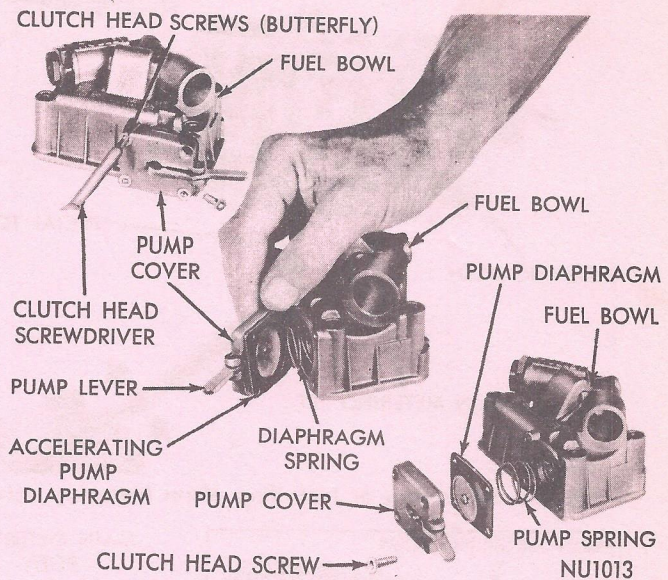

Fig. 14—Removing or Installing Accelerating Pump Assembly
(4) Remove sight plug and gasket from bowl. Discard gasket.
(5) Using special clutch head screwdriver Tool CL-13, remove screws that attach accelerating pump cover. Remove cover, then carefully remove diaphragm and return spring (Fig. 14).
(6) Remove fuel inlet fitting and discard gasket.